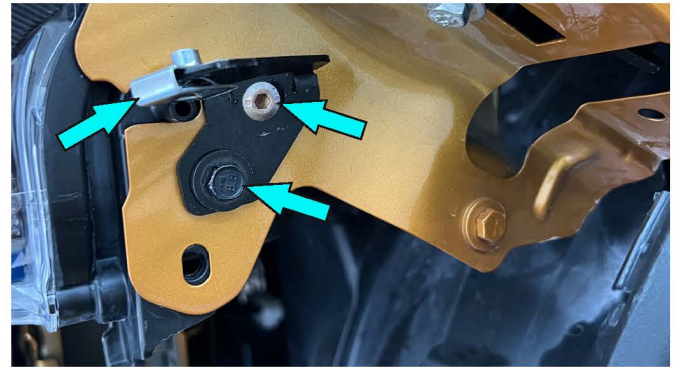

Fig.33
33. Install brackets between wing and light (item 8, 9) using OE bolts and screws M6x20 with washers 6 (item A, H). Install U-nuts M6 (item R) on brackets (fig.33).